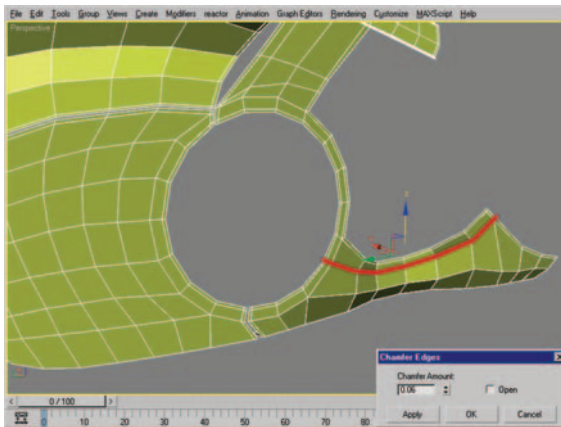

Figure 8.75 Edge selection. Use Chamfer settings with a value of 0.06 to create a new row of edges.
74. Select the edges seen in Figure 8.75 and use the Chamfer settings dialog box with a Chamfer Amount of 0.06 to create a parallel row of edges that follows the same path as the original selection.